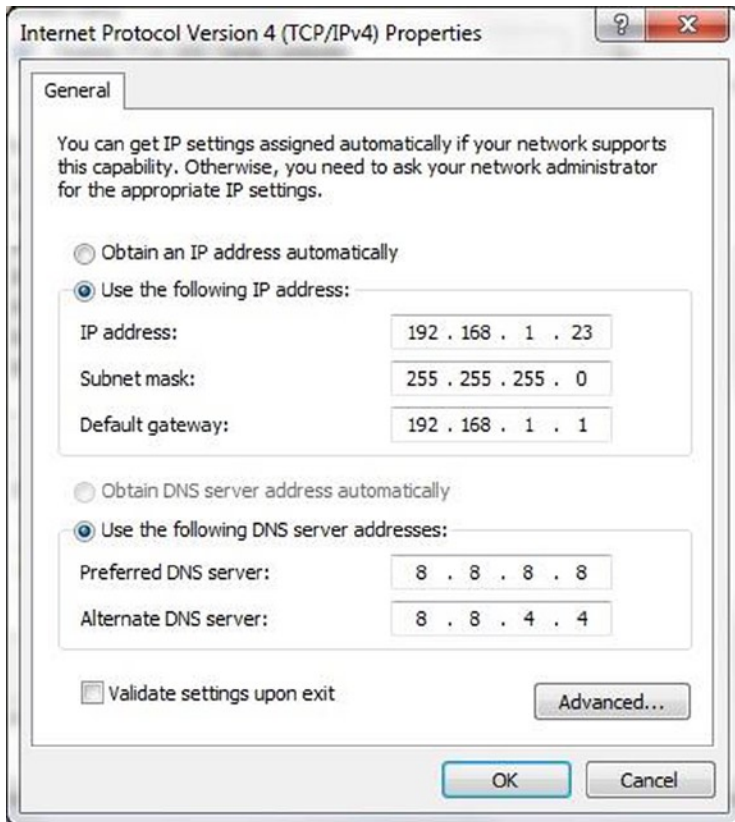

Figure 5-7. IPv4 properties on Windows 7
3. Select Internet Protocol Version 4 (TCP/IPv4) and click the Properties button. The IPv4 setting will be shown, as shown in Figure 5-7. Add a valid static IP, subnet mask, and gateway (usually your router IP).